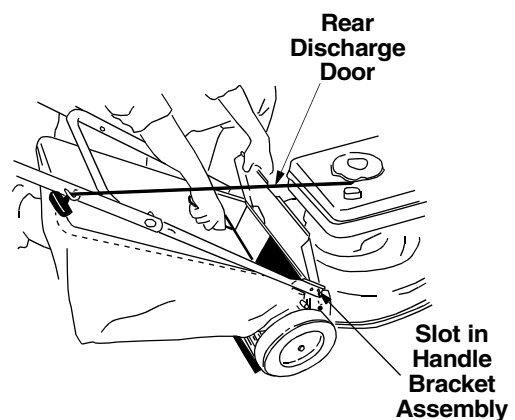

Figure 11
- To remove the mulching baffle, lift the rear discharge door on the mower. Remove the mulching baffle. See Figure 11.
- Place the hooks on the grass catcher into the slots in the handle bracket assemblies. See Figure 11. Release the rear discharge door.
- **To remove the grass catcher,** lift the rear discharge door on the mower. Lift the grass catcher up, out of the slots in the handle bracket assemblies. Release the rear discharge door. See Figure 11.
- Lift the rear discharge door and install the mulching baffle. See Figure 11.